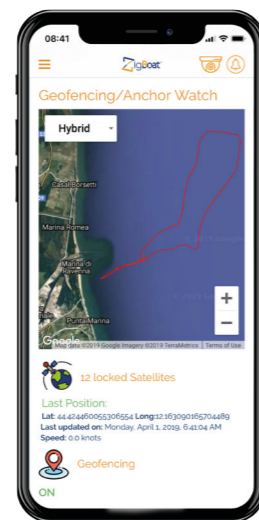

Fig. 9
- You can view the real time location and movements of your boat (fig. 9)